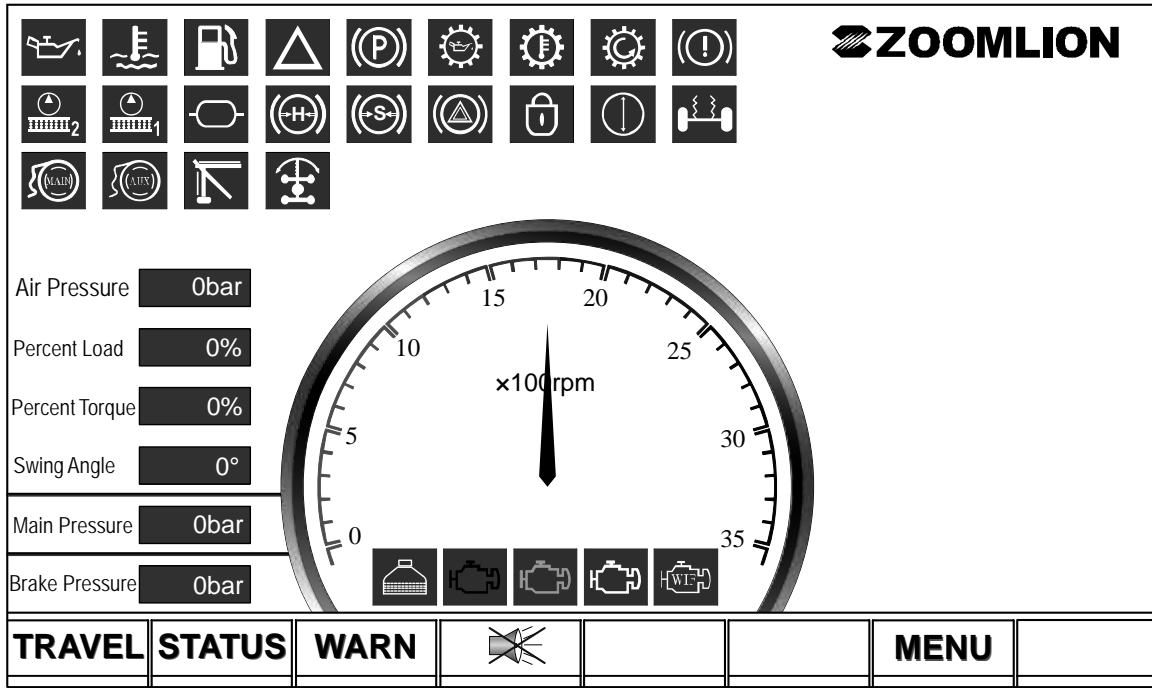

Figure 6-16 Work Mode
- B. The Work Mode Screen (when the park brake is ON) or Travel Mode Screen (when the park brake is OFF) appears on the monitor. Refer to Figures 6-16 and 6-17 respectively.